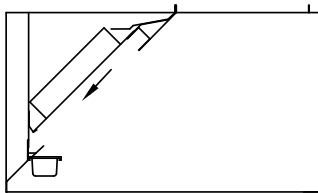

Fig. 18
3. When the filter is even with the bottom rear filter channel, set the filter into the channel; Fig. 18.